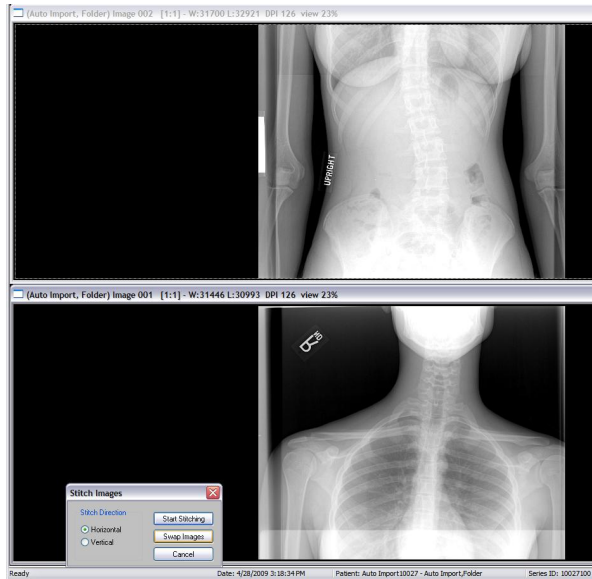
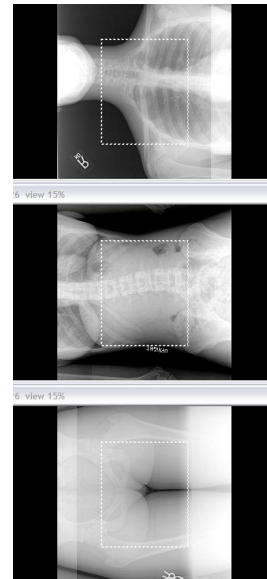

Figure 1
Figure 2
3. Organize the images in the correct viewing order. Note that no matter what the users selects for orientation (horizontal or vertical) that the software will only stitch vertically. For example, if the images appear as they do in Figure 1, then click the **Swap Images** button. If the images appear as they do in Figure 2, then rotate the images to the right 90°.